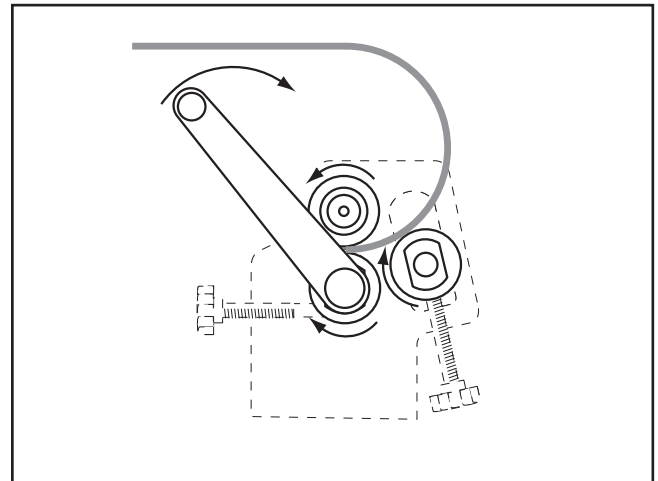

Figure 25. Processing the workpiece.
4. Turn the crank to process the material through the slip roll. Continue turning until the workpiece is completely through the top and bottom rollers (**Figure 25**).